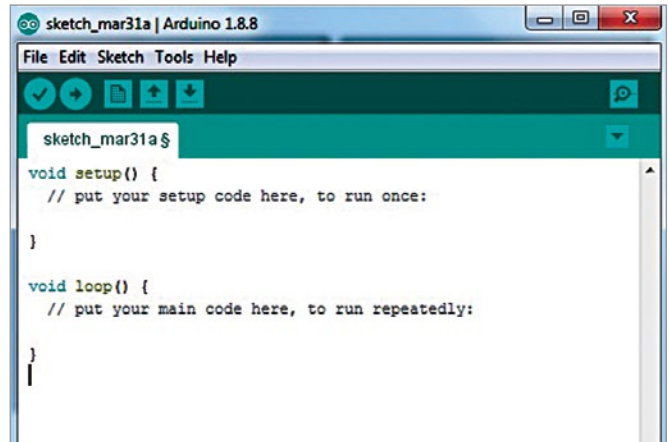

Fig. 4: Arduino sketch window
3. Open Arduino IDE by clicking the Arduino icon from Desktop. (You will get Arduino programming/sketch window as shown in Fig. 4.)